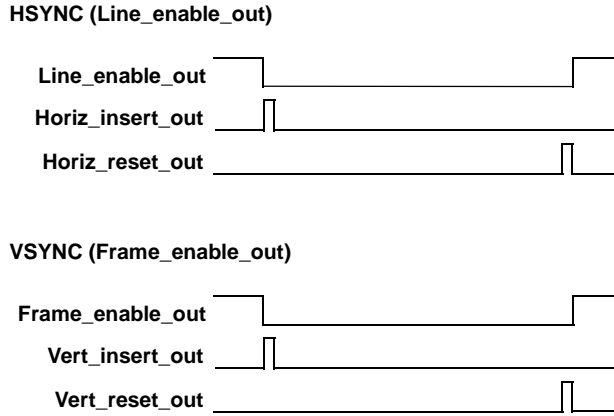

Figure 3: Sync Out Phase Adjustment
- The phase between the horizontal sync and vertical sync signals – Specified as a percentage of the horizontal period multiplied by 100, ranges from 100 (1%) to 9,900 (99%); nominal is 5,000 (50%). Figure 3 illustrates adjusting the phase.